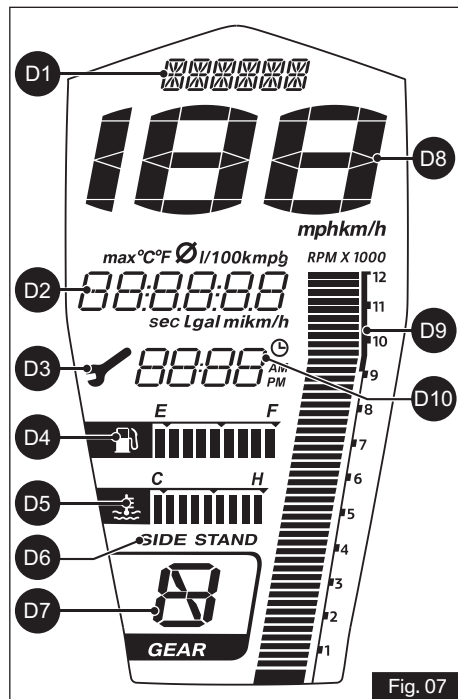

Fig. 07
D) Multifunction display (ref. Fig. 07)
D1. Alpha numeric display (ref. Fig. 07)
D2. ODO, Range, IMI, etc. (ref. Fig. 07)